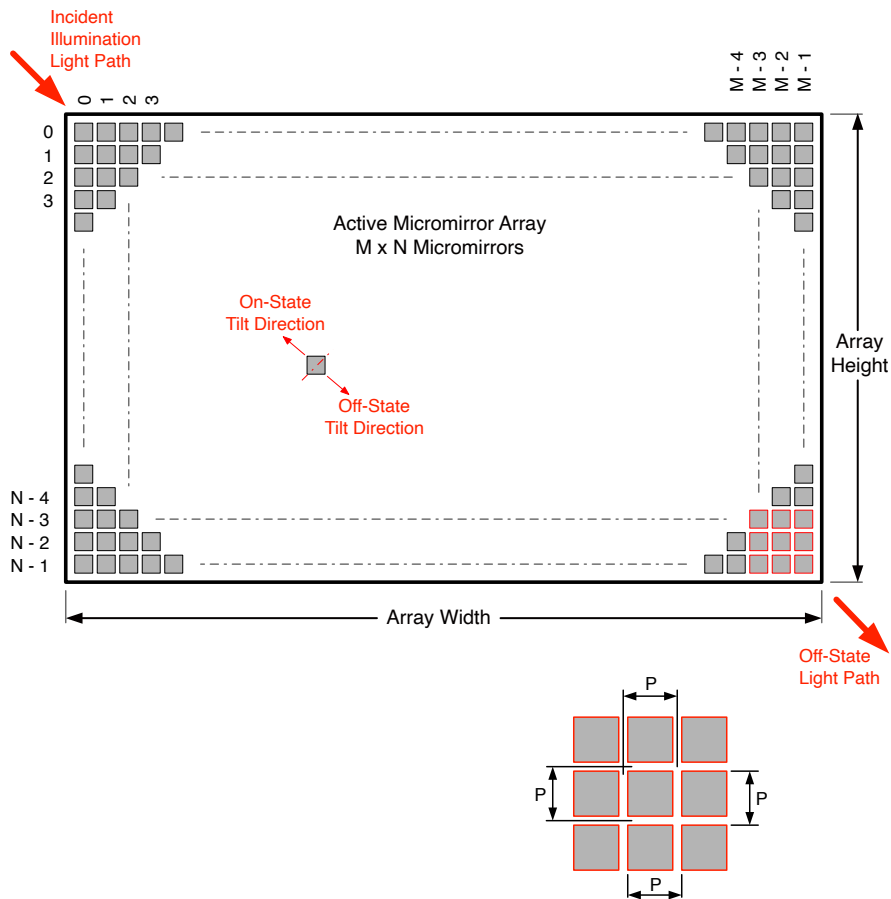

Figure 5-15. Micromirror Array Physical Characteristics
- (1) See Figure 5-15.
- (2) The fast switching speed of the DMD micromirrors combined with advanced DLP image processing algorithms enables each micromirror to display four distinct pixels on the screen during every frame, resulting in a full 3840 × 2160 pixel image being displayed.
- (3) The structure and qualities of the border around the active array include a band of partially functional micromirrors referred to as the *Pond Of Micromirrors* (POM). These micromirrors are structurally and/or electrically prevented from tilting toward the bright or ON state but still require an electrical bias to tilt toward the OFF state.